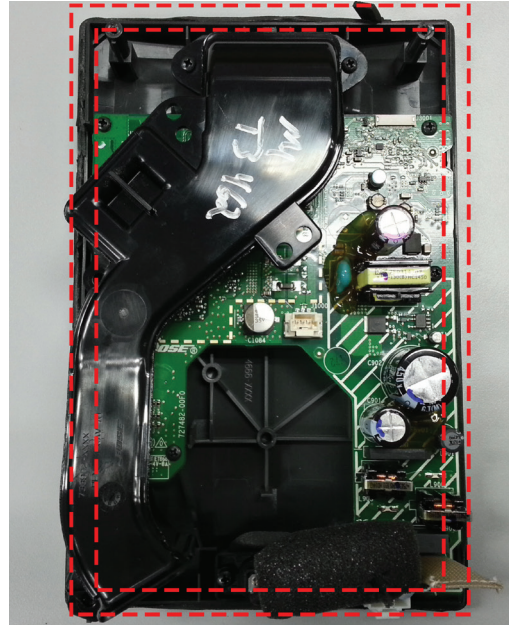

Figure 34. Cabinet, Enclosure Foam
3.1 Figure 34. A new enclosure foam is needed to prevent an air leak as the gasket foam for the enclosure might tear upon disassembly and cause an air leak. Enclosure Gasket foam part 735334-0020.